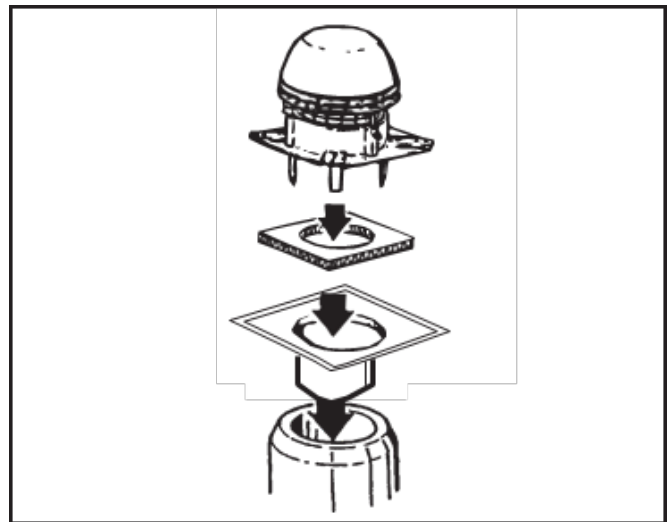

FIGURE 31
7. The chimney fan is now ready for installation on the top of the chimney. Place the fiber mat with the aluminum foil facing upwards on the top of the MFD and place the fan on top of the mat. High temperature silicone can be applied on the side of the mat but is not required. It can also be painted. Use the mounting holes on the fan base as a drill template to make one mounting hole in each corner of the adapter. Use bolts and locking nuts to secure the fan to the MFD. **(Figure 31)**